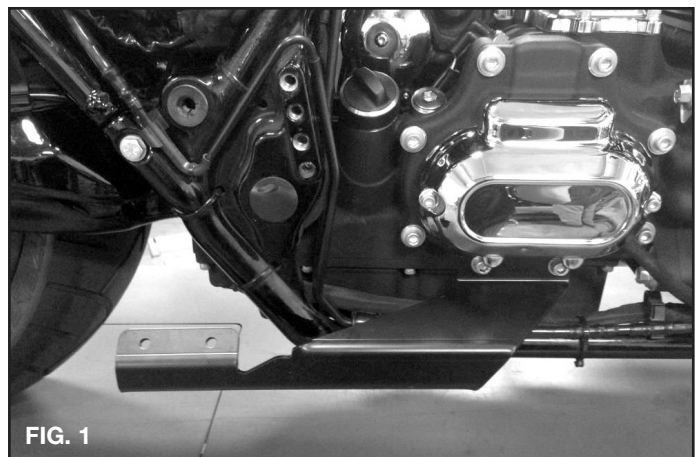

FIG. 1
13. Replace the bracket on the transmission housing with the new bracket (stamped 869-P) and torque to 13-16 ft.-lbs. (Fig. 1)